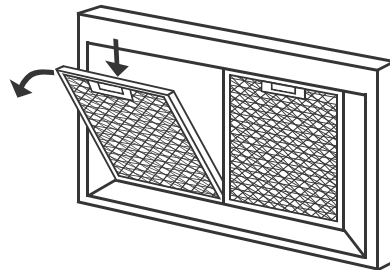

Fig.4 Removing the grease filters
- 3 Remove the grease filters (this is to make installation easier). Press inward on the catch, found on the handle, and pull the filter downward (Fig.4).